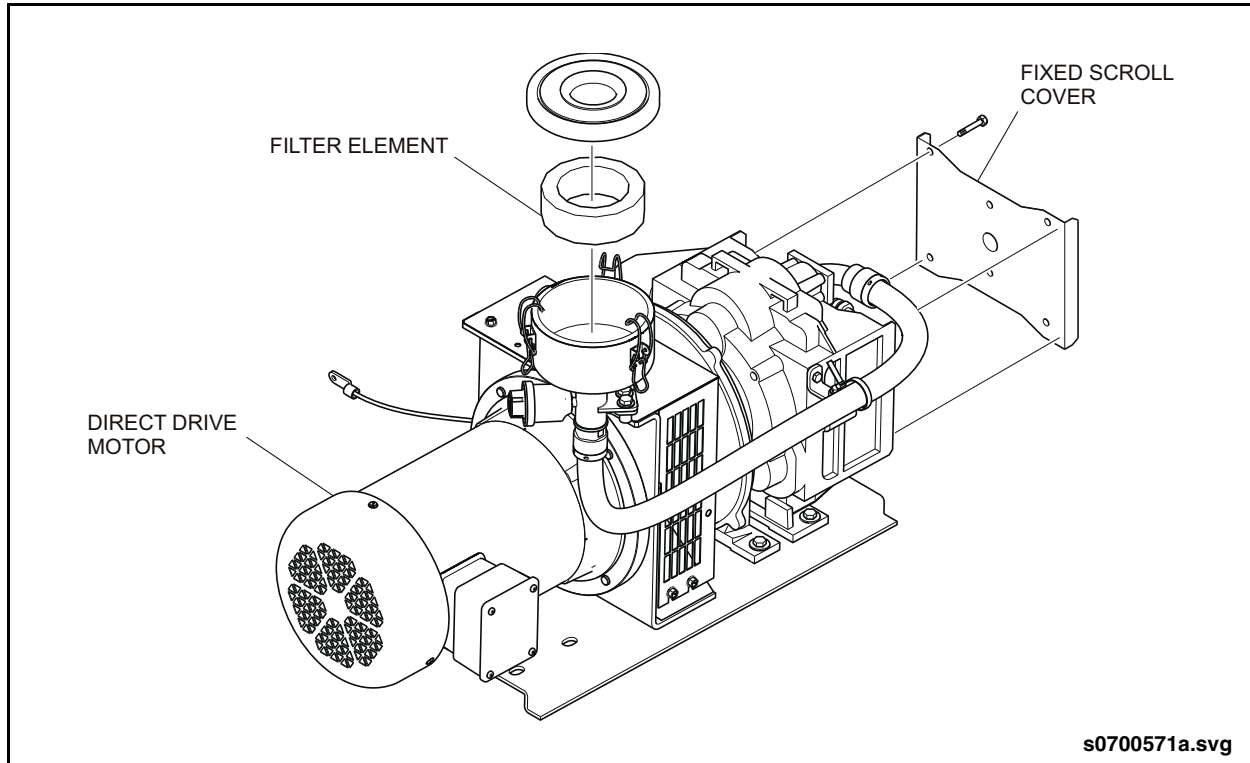

Fig. 2: Scroll Compressor Filter Replacement
- Remove the fixed scroll cover and clean the cooling fins using compressed air. See "Fig. 2: Scroll Compressor Filter Replacement" on page 4.